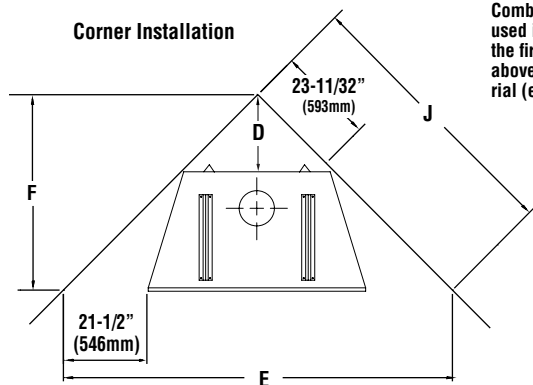

**Figure 8A - Hearth Extension Requirements**
(refer to **Figures 8A and 8B**)
2. The hearth extension should be secured to the floor. The gap between the fireplace and the hearth extension must be sealed. The supplied safety metal strip must be positioned as follows: One half under the front of the fireplace and the other half must extend on the floor over which the hearth extension will be built (see **Figure 8A**).
3. On a raised base or raised hearth, a "Z" shape piece of metal must be fabricated to join the bottom of the fireplace to the floor (see note 1 in **Figure 8A**).